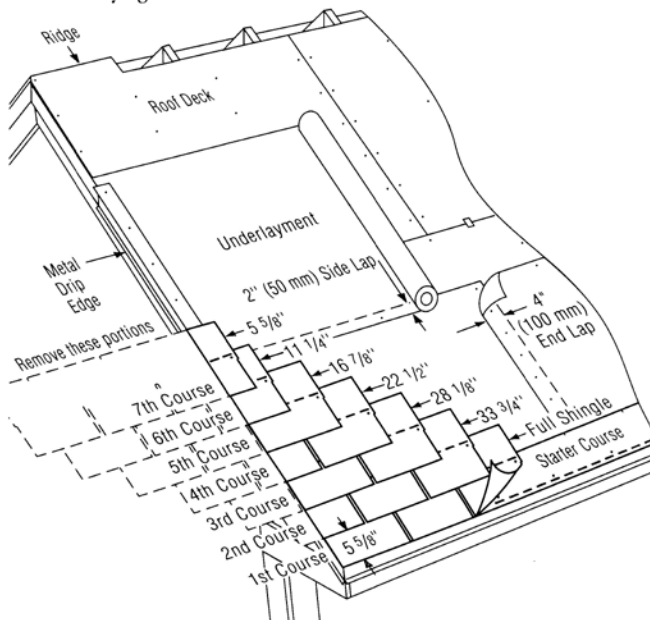

Figure 12-13: Applying the first 7 courses on a standard slope.
1ST COURSE: Apply a full shingle at the lower left corner of the roof. Make tabs lie flush with the edges of the starter course. In this way, sealant on the starter strip will adhere to the first-course tabs and help keep them from lifting in high winds (*Figure 12-13*).
1. Cut 5 $\frac{5}{8}$ " off the left side of a shingle and install this 33 $\frac{3}{4}$ " piece over and above the first-course shingle, in line with the left edge of the starter course (*Figure 12-13*).
2. Cut 11 $\frac{1}{4}$ " off the first shingle of the third course, 16 $\frac{7}{8}$ " off the first shingle of the fourth course, 22 $\frac{1}{2}$ " off the first shingle on the fifth course, 28 $\frac{1}{8}$ " off the first shingle of the sixth course, and 33 $\frac{3}{4}$ " off the first shingle of the seventh course. Apply each with its left edge in line with the previous course (*Figure 12-13*).